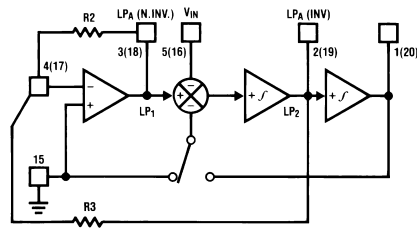

FIGURE 15. MODE 6b
**MODE 6b: Single Pole LP Filter (Inverting and Non-Inverting)** (See Figure 15)
whose outputs are not being directly used. Accompanying Figure 7 through Figure 15 are equations labeled “circuit dynamics”, which relate the Q and the gains at the various outputs. These should be consulted to determine peak circuit gains and maximum allowable signals for a given application.